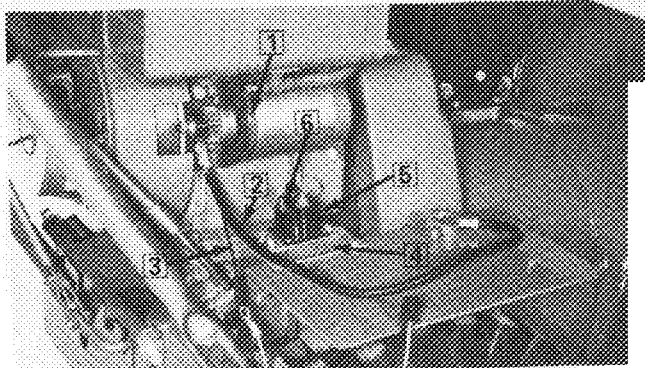

Figure 5
7. Secure starter motor assembly, negative (black) battery cable, and black grounding wire of charging plug (wire with ring terminal end) with two cap-screws as shown (Fig. 5).
8. Secure solenoid mounting bracket to battery mounting bracket with two self tapping screws (Fig. 5).
9. Secure solenoid to solenoid mounting bracket with two capscrews, lockwashers, and locknuts. Make sure solenoid is positioned with small terminal positioned to the rear of the mounting bracket (Fig. 5).